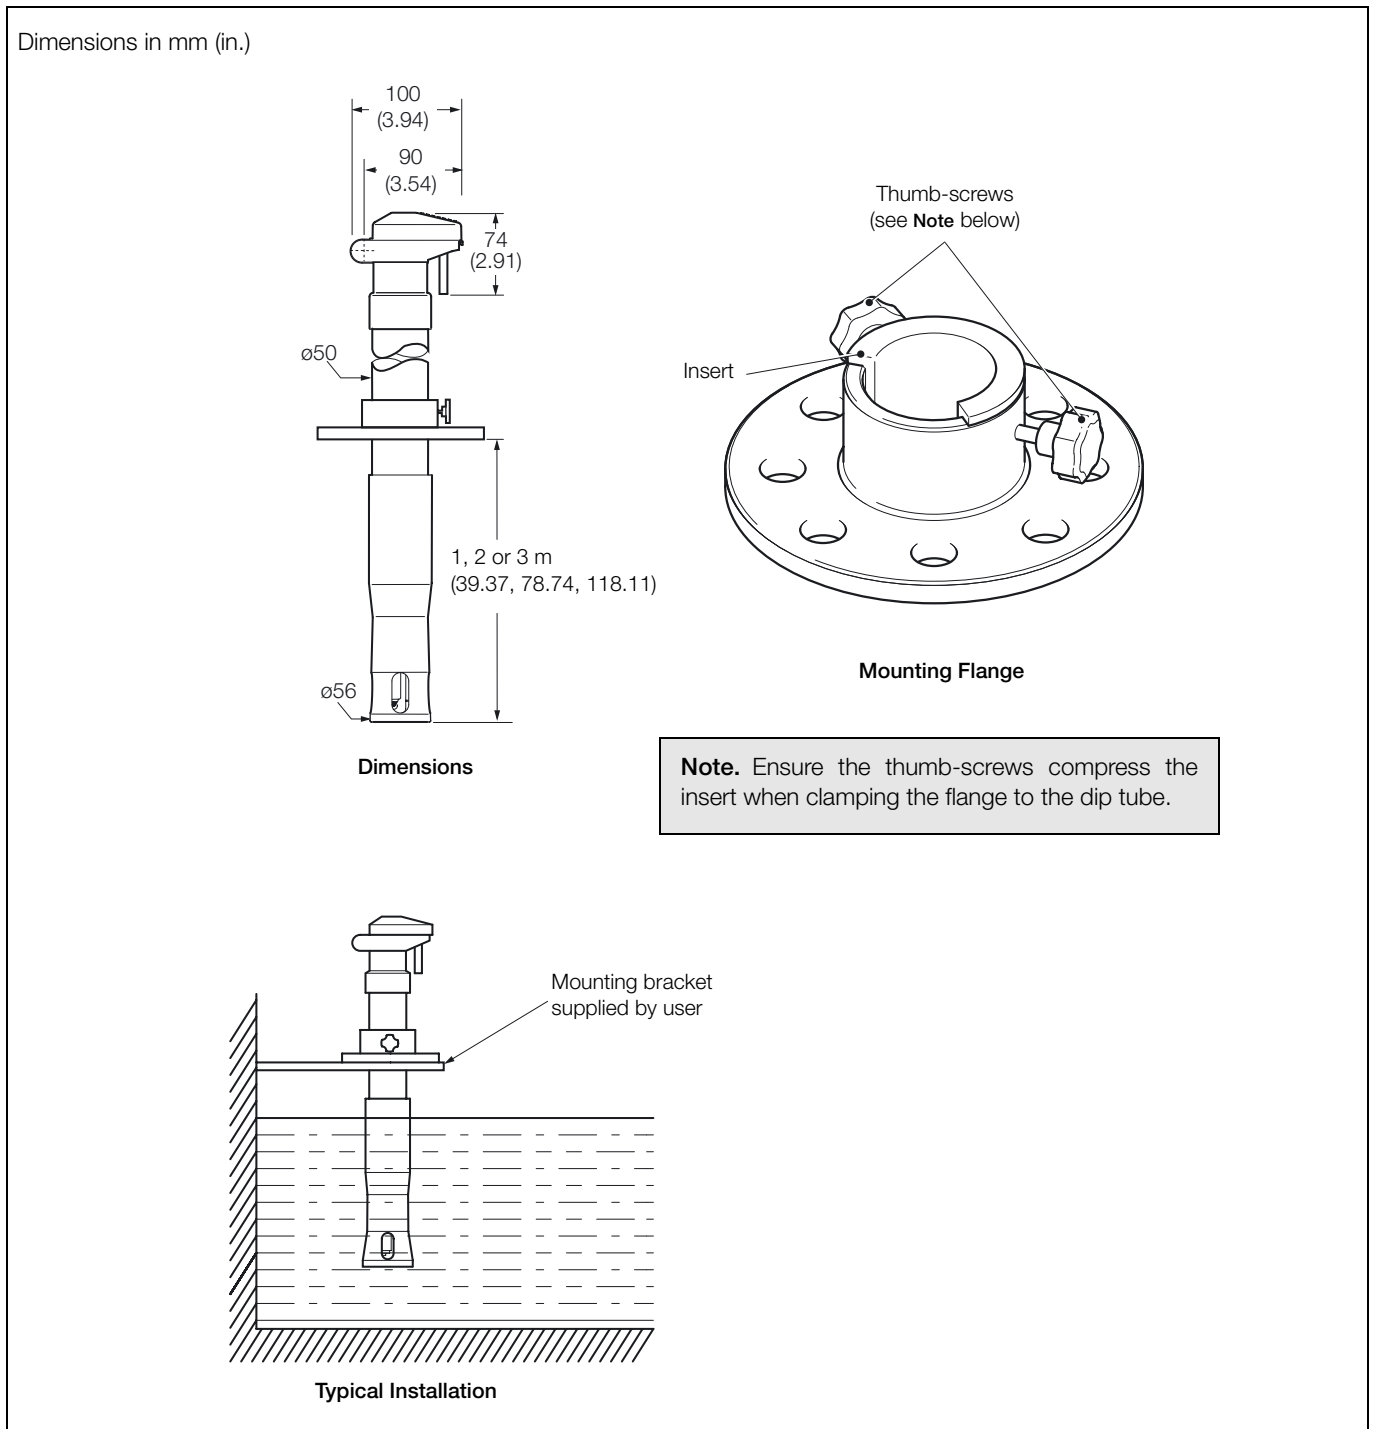

Fig. 2.3 Model AP203 Flanged Dip (Immersion) System
**2.1.3 Model AP203 Flanged Dip (Immersion) System – Fig. 2.3**